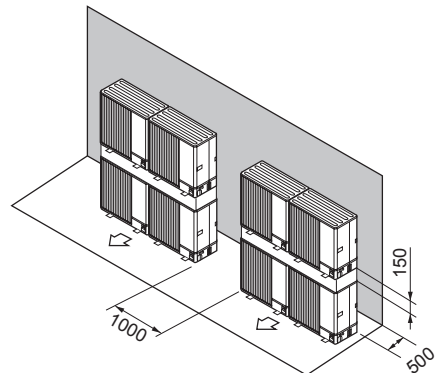

Fig. 2-36
- ⑦ Stacked unit arrangement (Fig. 2-36)